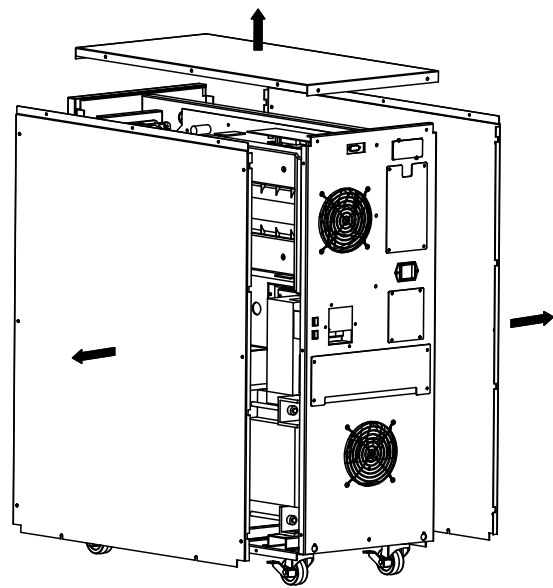

Figure 3.2
**STEP 2:** move the top cover and side cover upward, as shown in Figure 3.2.